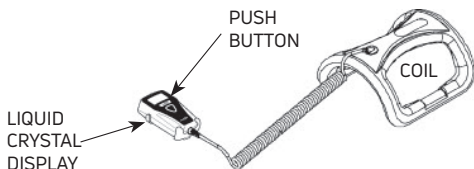

Figure 3. OL1000 SC
3. To start a treatment, press the "push button" next to the liquid crystal display (LCD) screen (see Figure 3), **hold it down until it beeps, and then let go.**